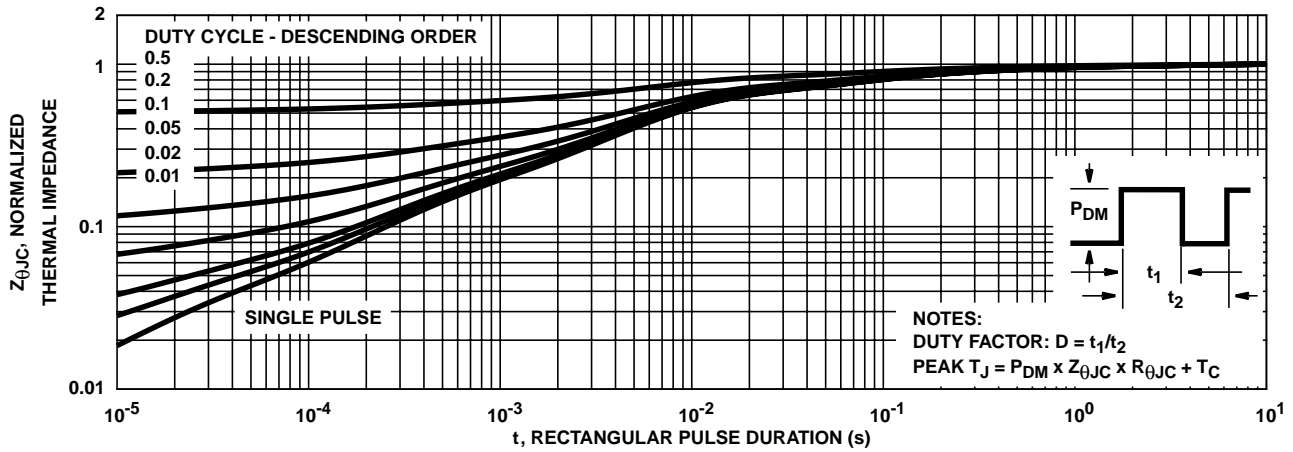

FIGURE 11. NORMALIZED MAXIMUM TRANSIENT THERMAL IMPEDANCE
2. Repetitive rating; pulse width limited by maximum junction temperature (See Figure 11).